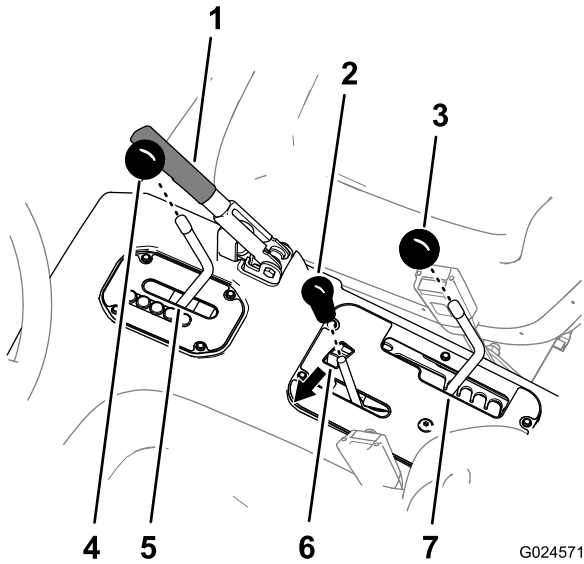

Figure 7
1. Ensure that the parking brake is set (Figure 7).
2. Move the transmission lever to the L (low forward) position (Figure 7).
3. Move the speed-range lever to the A (high range) position (Figure 7).
4. Move the hydraulic-lift lever to the raise the bed position, and set the hydraulic-lift lock (Figure 7).
5. Remove all knobs from console levers and from the transmission lever by rotating the knobs counterclockwise (Figure 7).